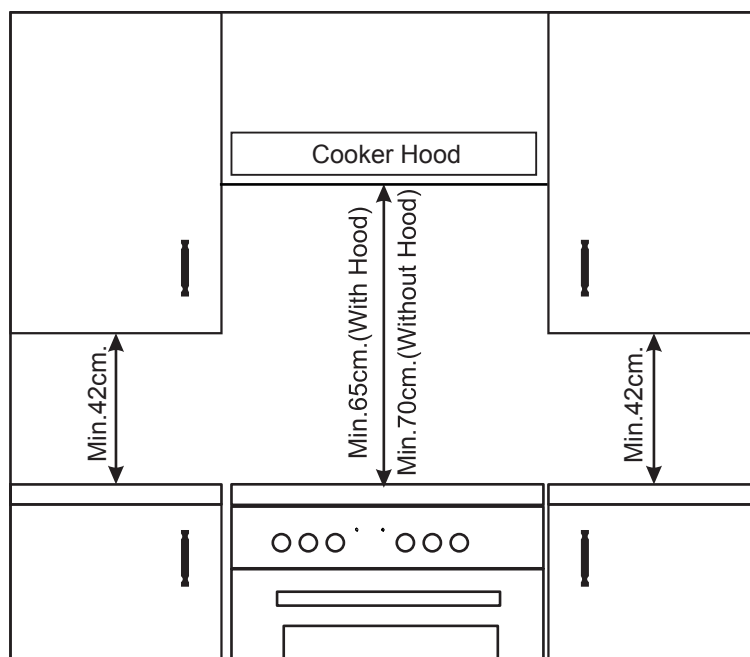

Figure 1
- d) Place the wall cabinets adjacent to the hood at a minimum height of 42cm from the hobs as indicated in figure 1.
- f) cooker be installed beneath a wall cabinet, the latter should be situated at least 70cm away from the hobs as indicated in figure 1.
- g) The cut-out for the cooker cabinet should have the dimensions indicated in the figure 1.